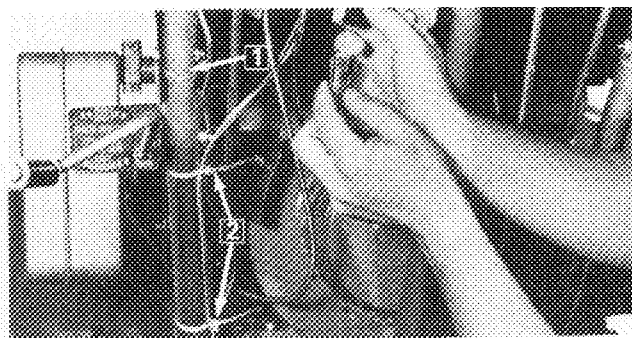

Figure 12
25. Secure wiring to left handle with two tie wraps (Fig. 12).